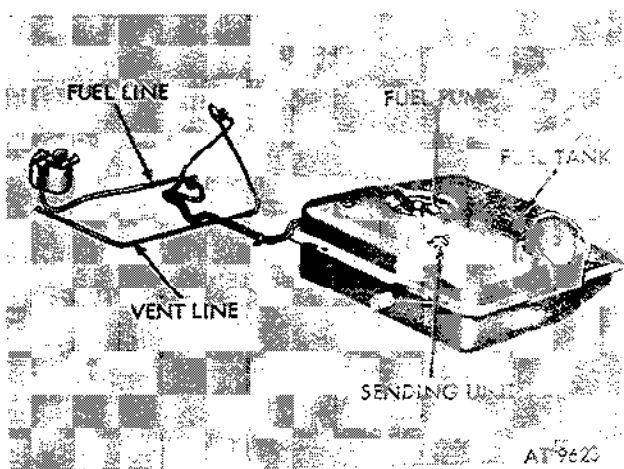

Figure 2-79. Fuel and vent lines on
a. *General.* The units comprising the fuel and air intake system include the carburetor, air cleaner, fuel pump, fuel filter, fuel tank, connecting fuel lines, and electric wiring for the fuel pump. Figure 2-79 is a view of the fuel and vent lines. Figure 2-80 is a schematic of the accelerator pedal, throttle, and choke control.